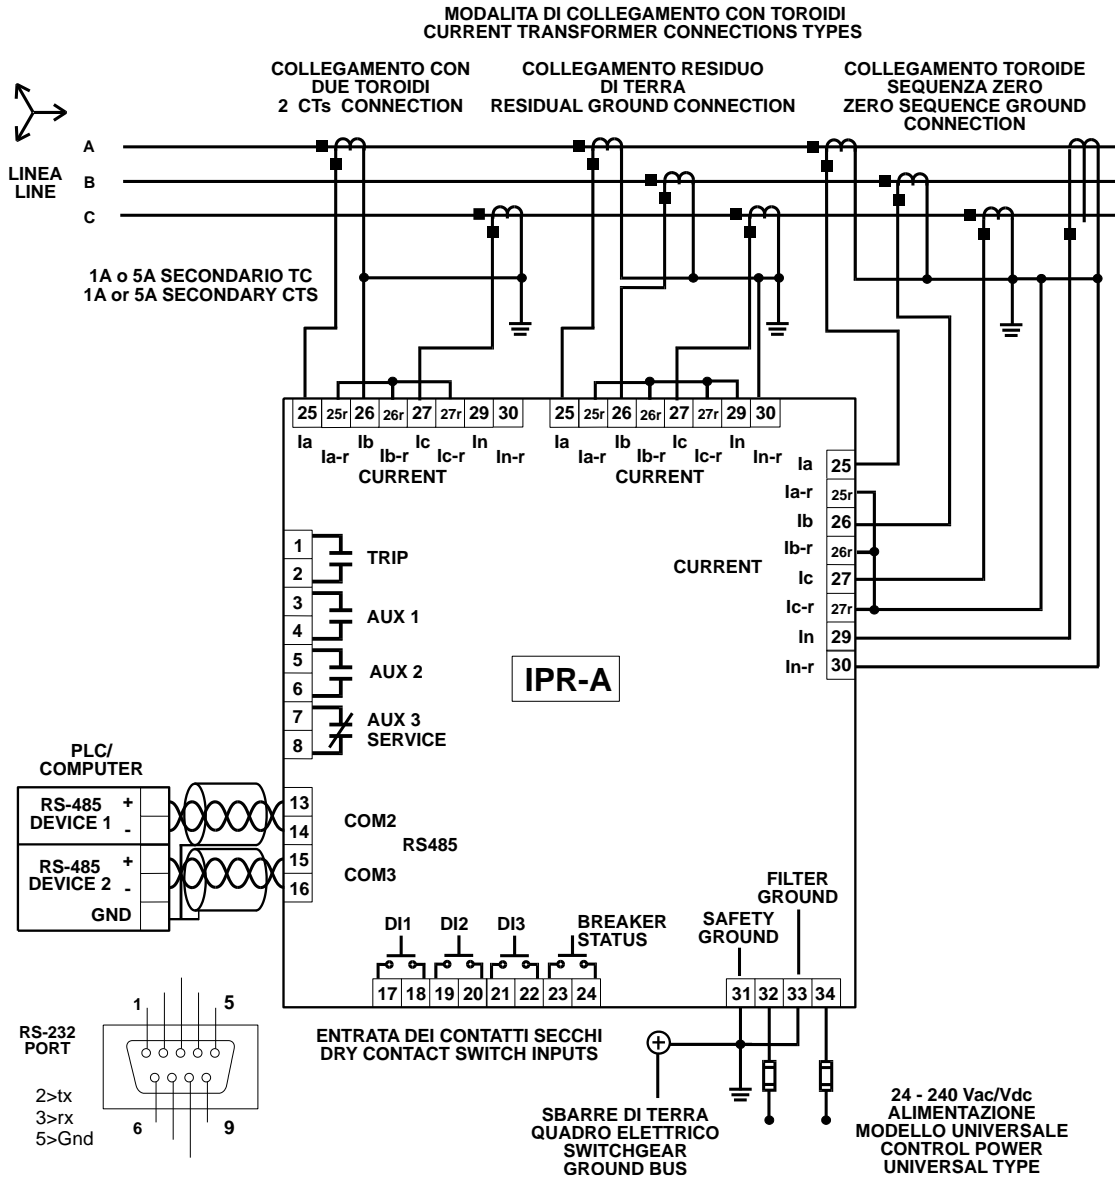

Figure 2.3 – Wiring diagram
- In Fig. 2.3 the relays contacts are represented in condition of no power supply.
The 3 or 4 transformers providing a current that is proportional to the phase or ground current must be connected to terminals from no. **25** to no. **30** [→ Fig. 2.3].
Normally IPR-A uses the “RESIDUAL GROUND CONNECTION” [→ Fig. 2.3] to sense ground current.
Observe correct polarity when connecting the CTs to the relay. The CT secondary marked terminal (usually with the S1 mark on it) must be connected to the relay terminal marked with **la**, **lb** or **lc**. Each CT should have the same orientation and the points identifying the magnetic directions must be connected as shown in Fig. 2.3.
Ground the shield at one point only [→ Fig. 2.3] to avoid ground loops.